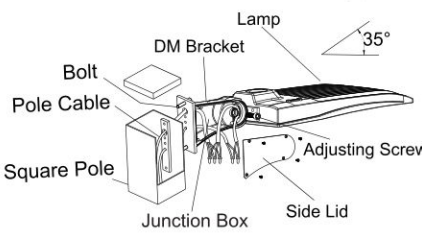

Figure 13
2. DIRECT MOUNTING (DM)
- Step 1: Fix DM bracket to square pole with bolt, open the side lid of DM bracket, pull the wire into junction box, and connect the wire correctly. (Figure 13)
- Notice: Adjustable angle is 0-35°(Figure 13).